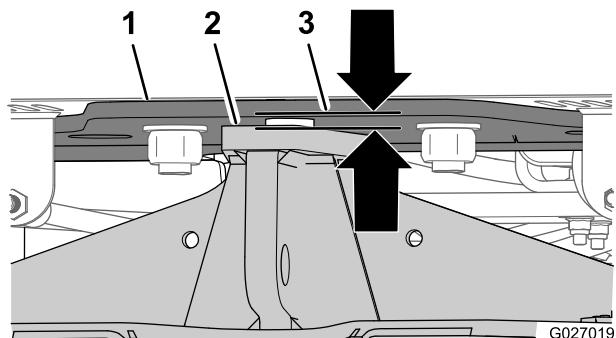

Figure 21
- 5. Determine the number of washers (1 x 5/8 inch) needed to reduce the gap between the upper plate of the mounting frame and the top of the pivot frame (Figure 21).